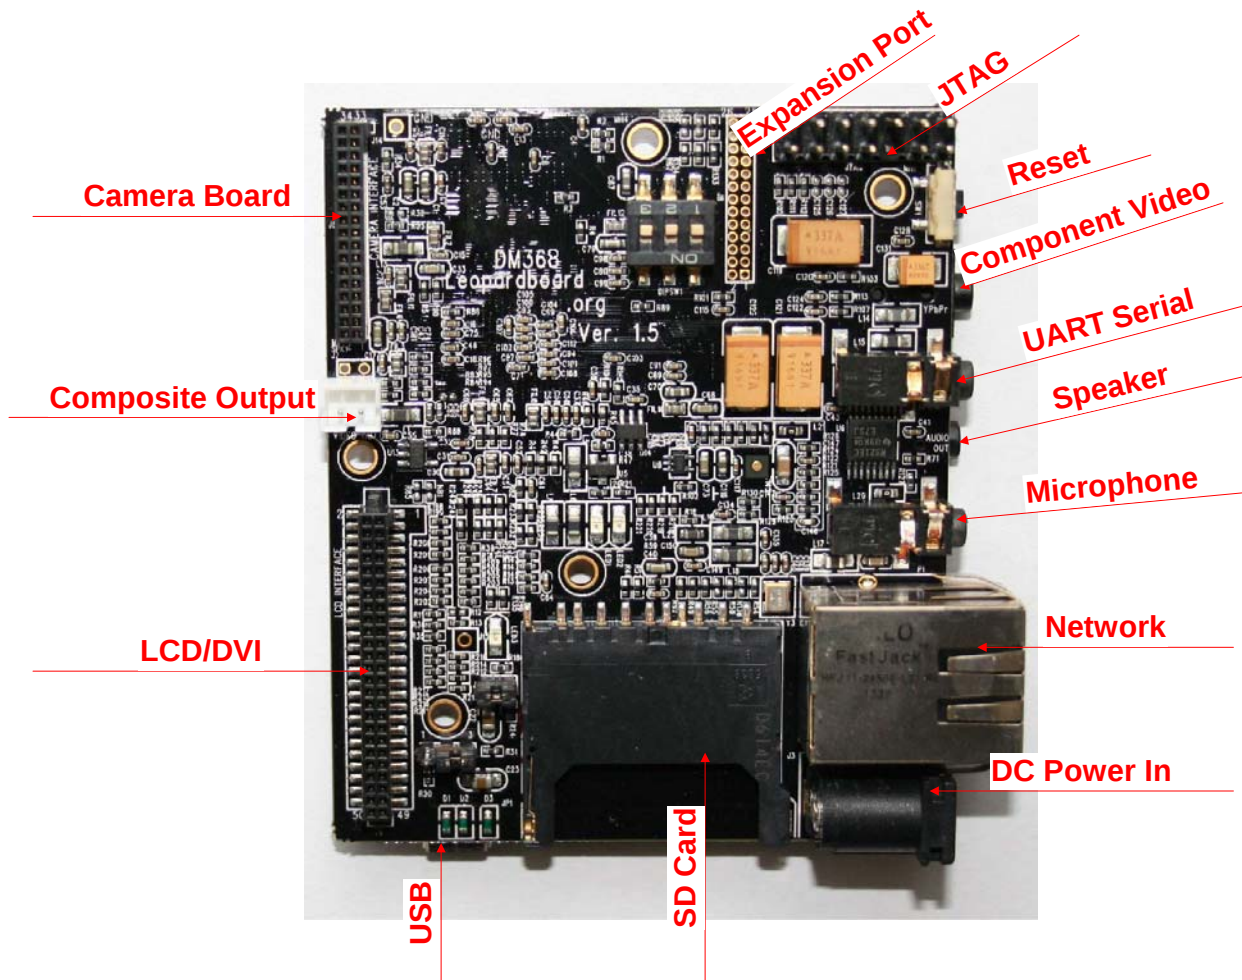

Figure 21. LeopardBoard 368 Function
2.2 LeopardBoard 368 Function Block, see Figure 21